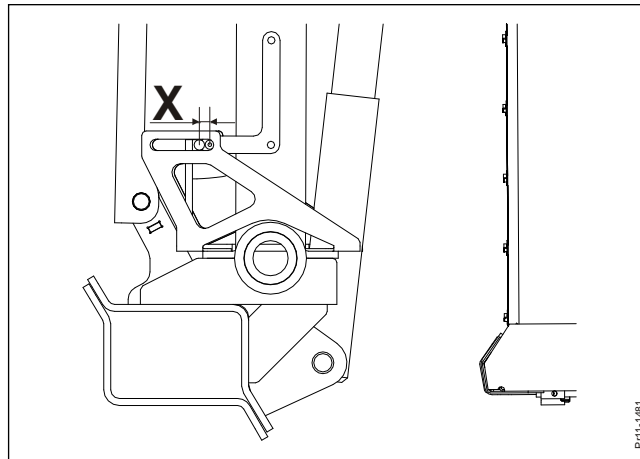

Fig. 5-40
**Fig. 5-40** The sensor is mounted in the oblong groove. Adjust the sensor so that the distance X is between 0 and 15. If the electronic control indicates that the belt unit is not folded up, even though it is, the distance X may be too big.